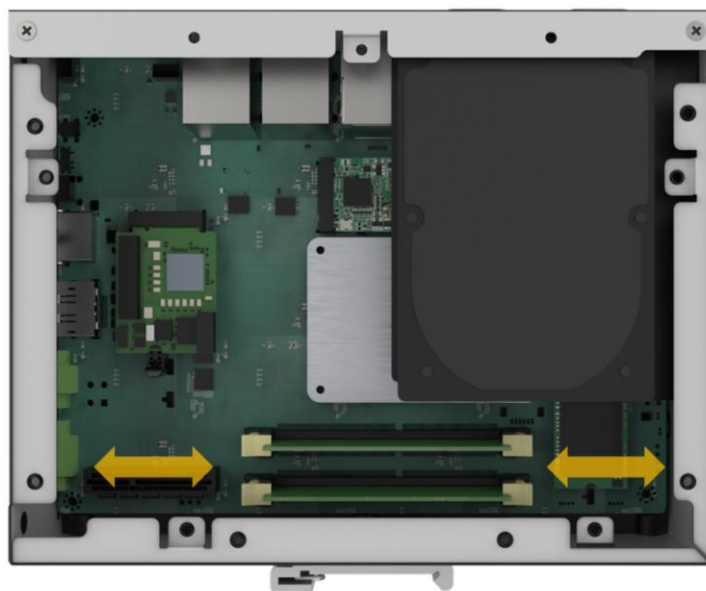

Figure 3-3: Memory Installation
- Step 3:** Once aligned, press down until the memory module is properly seated and the two handles fully clip into place (Figure 3-3).